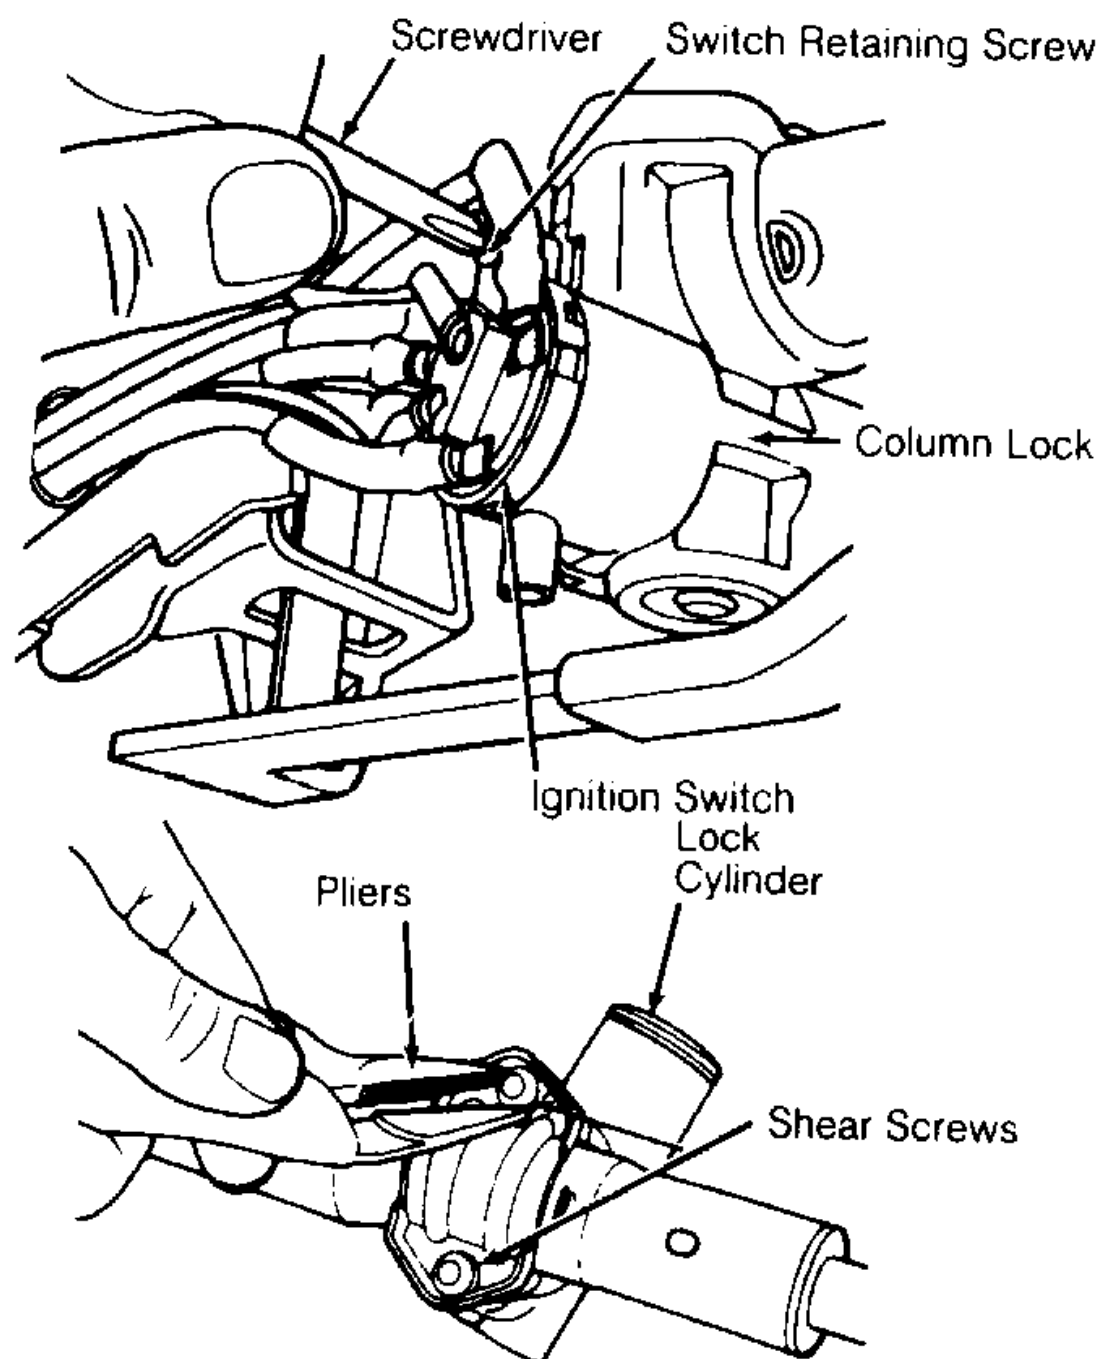

Fig. 2: Ignition Switch & Lock Mechanism
3. Remove column lock shield. Disconnect switch harness connector. Remove single retaining screw. Remove ignition switch. See Fig. 2. Reverse removal procedures to complete installation.
2. Remove steering column attaching nuts and lower the steering column support bracket. Remove single retaining screw from top side of ignition switch. Remove ignition switch wiring harness and ignition switch. See Fig. 2.
and disconnect cable from lock housing. Using slim-nose locking pliers, grip and remove round headed shear screws securing column lock housing and cap to column jacket. See Fig. 2.